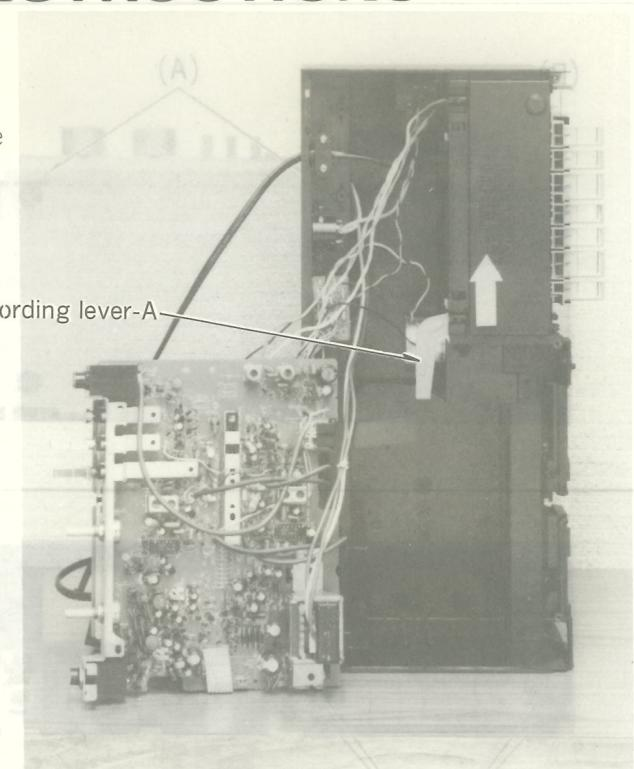
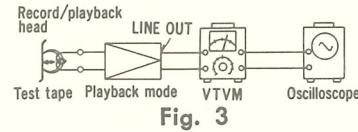
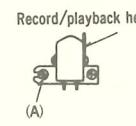
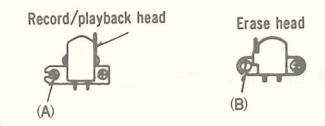

Fig. 7
Fig. 3
Fig. 4
Fig. 5
Repair the cassette deck in its upright condition, as shown in fig. 7. When mounting the main circuit board, lift the recording lever-A in the direction of the arrow, as shown in fig. 7.
A Head azimuth adjustment Condition: * Playback mode Equipment: * VTVM * Oscilloscope * Test tape (azimuth) ... QZZCFM * Test tape (tape path viewer) ... QZZCRD	<p>Record/playback head azimuth adjustment</p> <ol style="list-style-type: none"> Test equipment connection is shown in fig. 3. Playback azimuth tape (QZZCFM 8kHz). Adjust record/playback head angle adjustment screw (A) in fig. 4 so that output level at LINE OUT becomes maximum. Measure both channels, and adjust levels for equal output. After adjustment lock head adjustment screw (A) with lacquer. <p>Erase head azimuth adjustment</p> <ol style="list-style-type: none"> Test equipment connection is the same above but use the tape path viewer (QZZCRD) instead of test tape (QZZCFM). Playback this tape. Adjust screw (B) shown in fig. 5 so that the tape may not get curled or malformed by tape guide of the erase head. After adjustment, lock head adjust screw (B) with lacquer.
<p>C Playback frequency response</p> <p>Condition:</p> <ul style="list-style-type: none"> * Playback mode * Tape selector ... Normal position <p>Equipment:</p> <ul style="list-style-type: none"> * VTVM * Oscilloscope * Test tape ... QZZCFM 	<ol style="list-style-type: none"> 1. Test equipment connection is shown in fig. 3. 2. Place UNIT into playback mode. 3. Playback frequency response test tape (QZZCFM). 4. Measure output level at 315Hz, 12.5kHz, 8kHz, 4kHz, 250Hz, 125Hz and 63Hz, and compare each output level with standard frequency 315Hz, at LINE OUT. 5. Make measurement for both channels. 6. Make sure that the measured value is within the range specified in the playback frequency response chart. (shown in fig. 7). <p style="text-align: center;">Fig. 7</p>
<p>D Playback gain</p> <p>Condition:</p> <ul style="list-style-type: none"> * Playback mode * Tape selector ... Normal position <p>Equipment:</p> <ul style="list-style-type: none"> * VTVM * Oscilloscope * Test tape ... QZZCFM 	<ol style="list-style-type: none"> 1. Test equipment connection is shown in fig. 3. 2. Playback standard recording level portion on test tape (QZZCFM 315Hz), and using VTVM measure the output level at LINE OUT. 3. Make measurement for both channels. <p style="border: 1px solid black; padding: 2px;">Standard value: around 0.39V</p> <p>Adjustment</p> <ol style="list-style-type: none"> 1. If measured value is not within standard, adjust VR3 (L-CH), VR4 (R-CH) (See fig. 1 on page 3). 2. After adjustment, check "Playback frequency response" again.